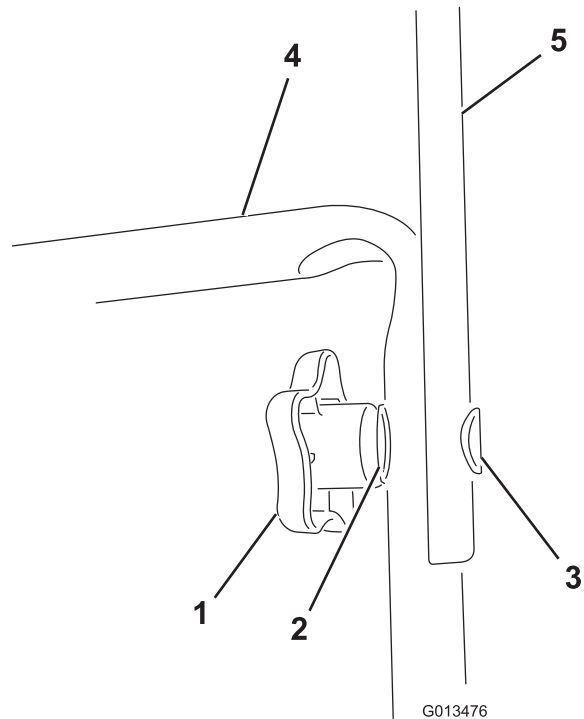

Figure 1
2. Install the upper handle to the lower handle of the appliance with the handle knobs, curved washers, and oval bolts as shown in Figure 1.